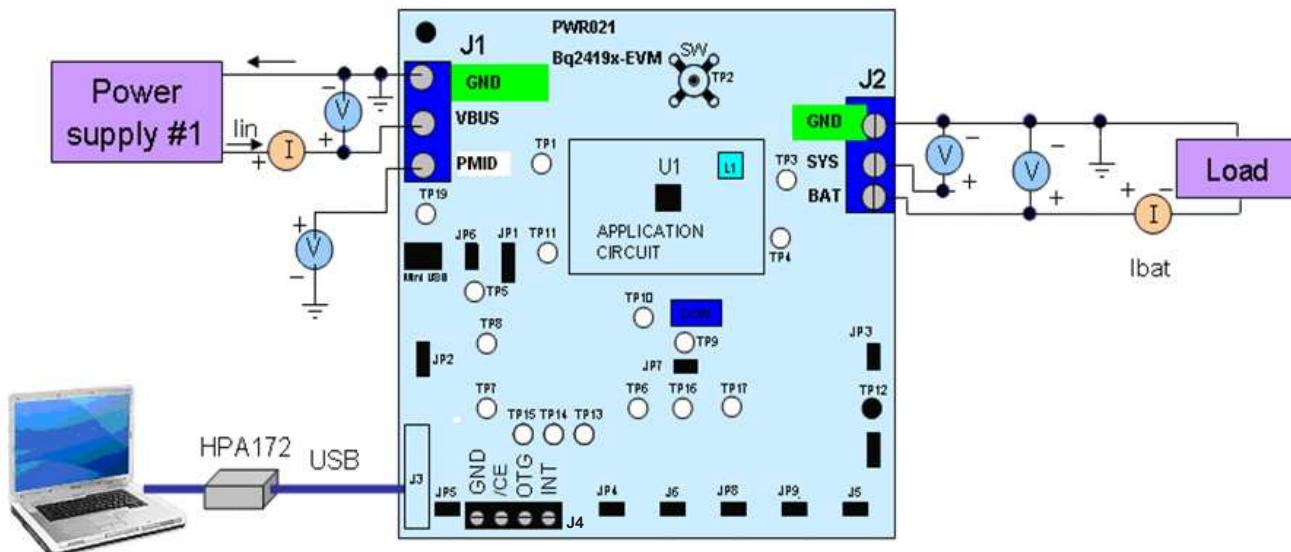

Figure 2. Original Test Setup for PWR021 (bq2419xEVM)
4. Turn on the Load, set to constant voltage mode and output to 2.5 V. Turn off (disable) Load. Connect Load in series with a current meter (multimeter), ground side, to J2 (BAT+ and GND) as shown in Figure 2.